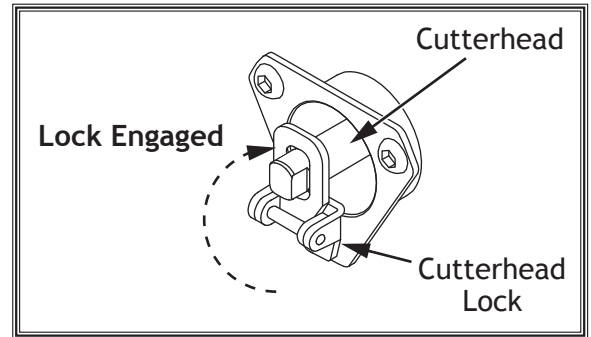

Figure 33. Cutterhead lock engaged.
4. Rotate cutterhead until knife clamp is on top, then engage cutterhead lock (see **Figure 33**) by moving lock up and over end of cutterhead.